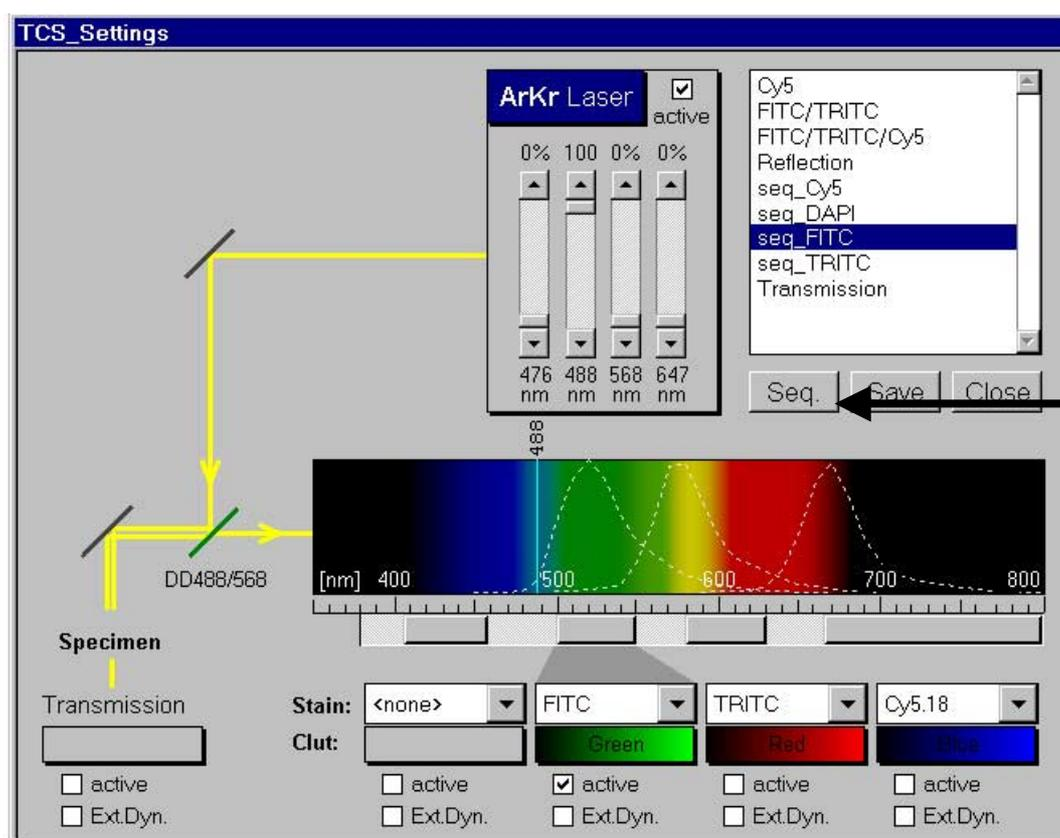

Figure 2: Dialogue for Filter Settings
3. Click on **<Seq>** within the filter dialogue box to open the dialogue box for the Sequential scan settings (Fig. 2).